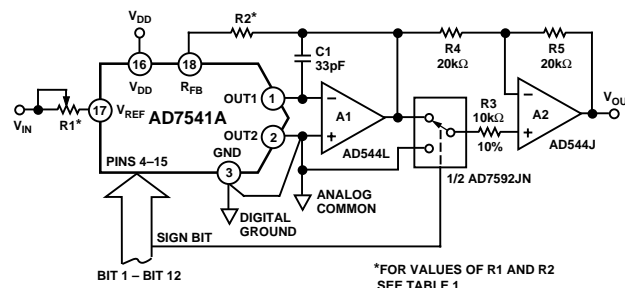

Figure 6. 12-Bit Plus Sign Magnitude Operation
Figure 6 and Table IV show an alternative method of achieving bipolar output. The circuit operates with sign plus magnitude code and has the advantage of giving 12-bit resolution in each quadrant, compared with 11-bit resolution per quadrant for the circuit of Figure 5. The AD7592 is a fully protected CMOS changeover switch with data latches. R4 and R5 should match each other to 0.01% to maintain the accuracy of the D/A converter. Mismatch between R4 and R5 introduces a gain error.
**Table IV. 12-Bit Plus Sign Magnitude Code Table for Circuit of Figure 6**